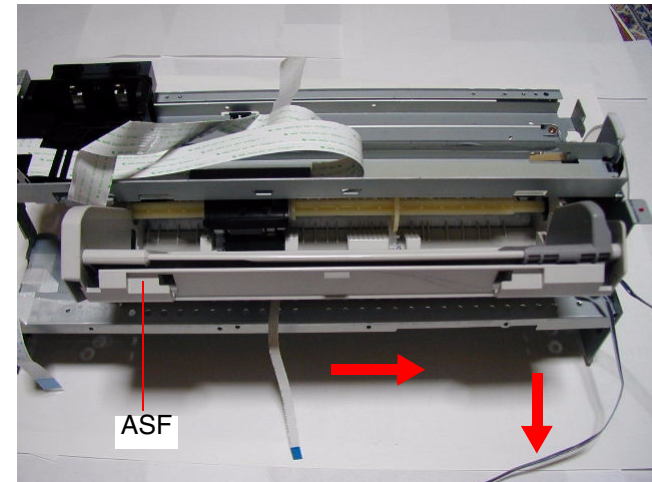

Figure 4-30. Removing the ASF Assembly (2)
- 4) Slide the ASF unit to the right (viewed from back) and pull it backward carefully. Refer to Figure 4-30.